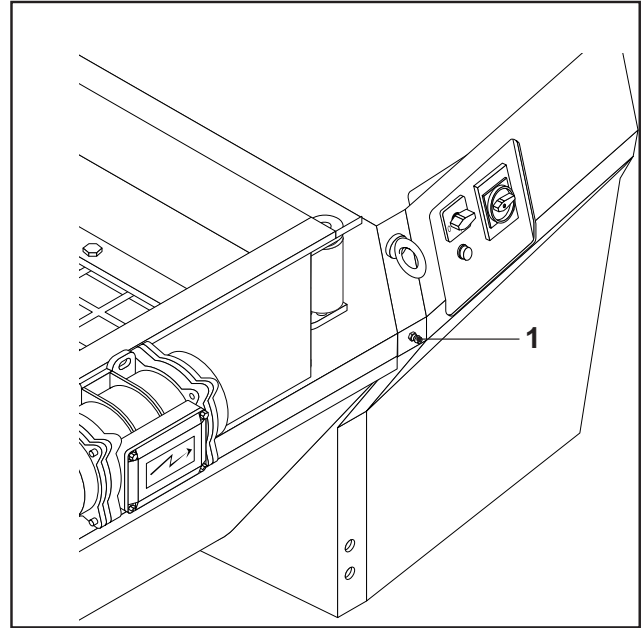

FIG.36
- Grease the pendulum using the greaser (FIG.36-REF.1) positioned on the machine body, under the eyebolt (electric control board side).